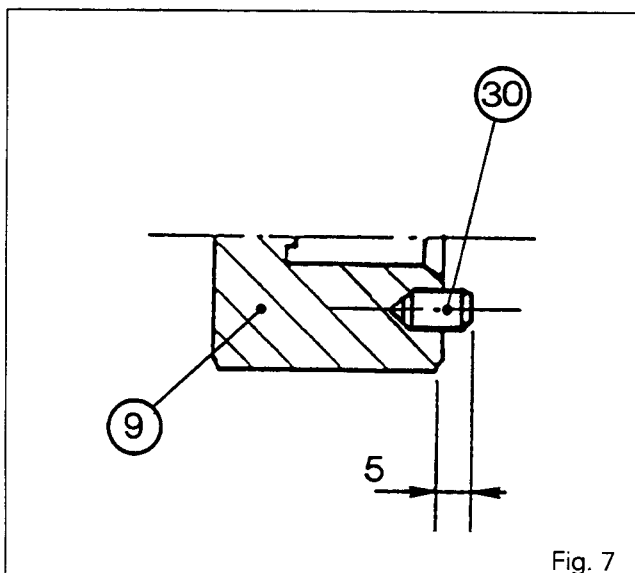

Fig. 7
Two pins (30) are fitted in the support housing (9) 5 mm from the face (Fig. 7).
38. Using a suitable device and a press, push the ball bearing (7) in until it meets the shoulder.